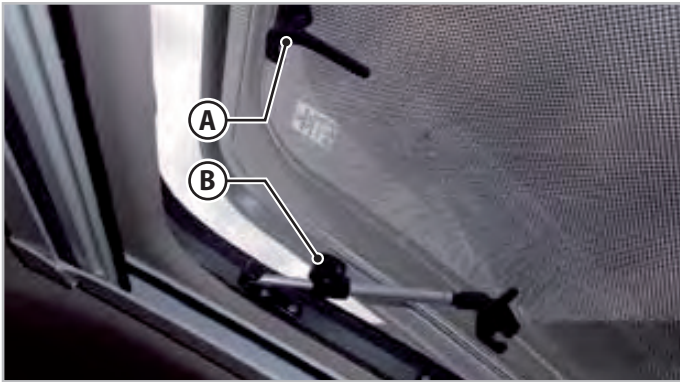

Fig.6.9 - Panoramic skylight
1. Turn the levers (**A** - Fig.6.9) to the vertical position.
3. Lock the skylight by tightening the knobs (**B** - Fig.6.9) on the telescopic arms.
1. Loosen the knobs (**B** - Fig.6.9) on the telescopic arms.
3. Lock all the levers (**A** - Fig.6.9).